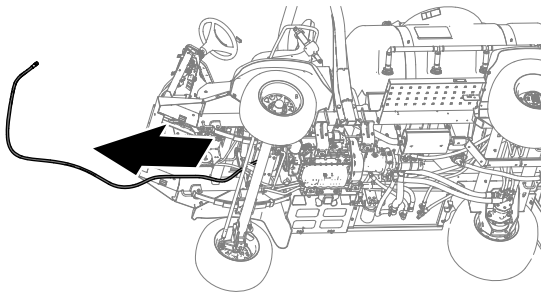

Figure 22
3. Remove the return hose for the steering valve from the machine (Figure 22).